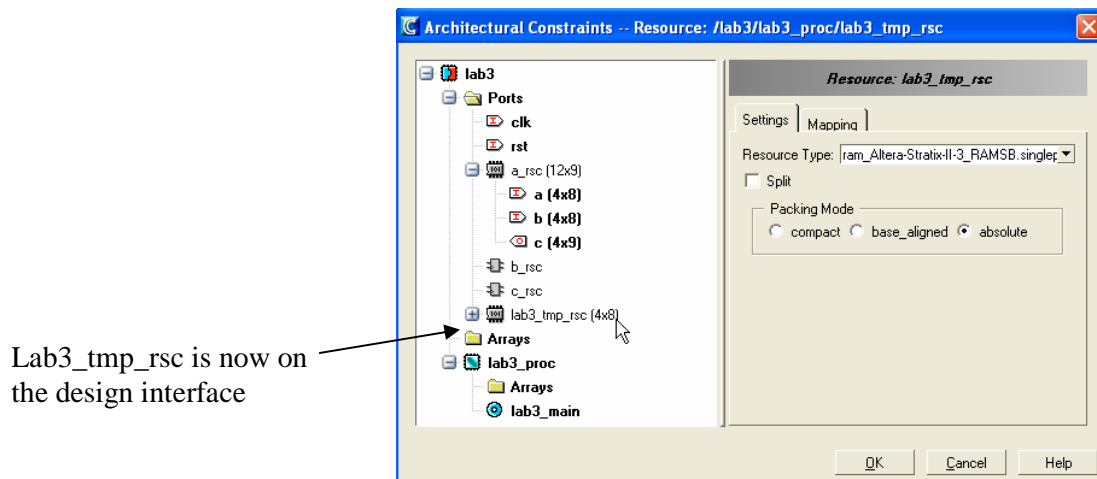

Figure 11 Making a Resource External
- ✓ Open the internal arrays folder and drag the “lab3_tmp_rsc” resource onto the ports folder, making it external (Figure 11).